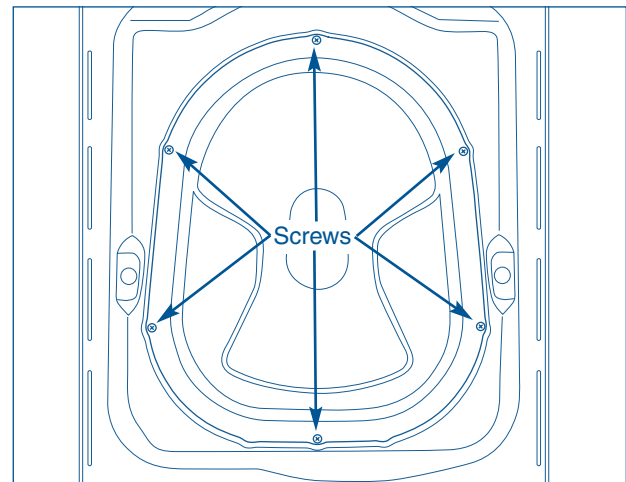

Figure 4-43.
2. Using a #2 square bit screwdriver, extract the six screws securing rear access cover to the rear panel. (See Figure 4-43)